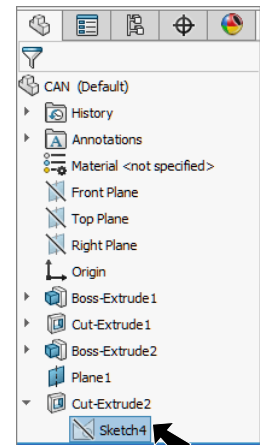

Fig. 43
Step 1. Expand **Cut-Extrude2** in the Feature Manager and click **Sketch4** to select, **Fig. 43**.